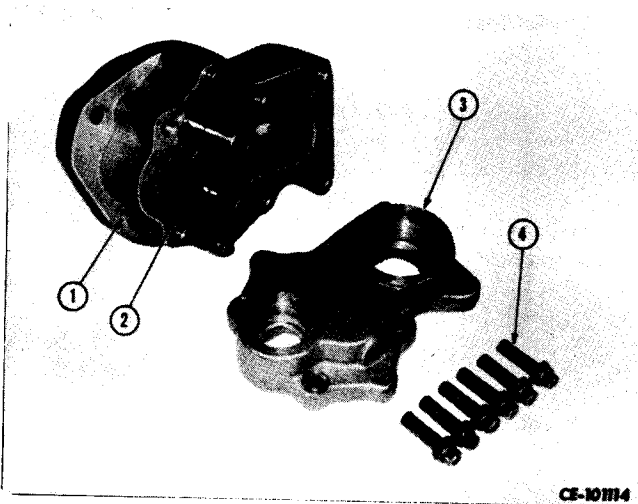

Figure 3-63
Remove cap screws and washers (4, Fig. 3-63) that secure cover (3) to pump body (1). Pry cover carefully and evenly from body. Care must be taken not to damage casting. Remove and discard "O" ring (2). Do not lose dowel pins.
Install new "O" ring (2, Fig. 3-63) in pump cover (3). Install cover (3) on body and secure with cap screws and washers (4). Tighten cap screws evenly and to recommended torque (refer to "SPECIAL TORQUES").